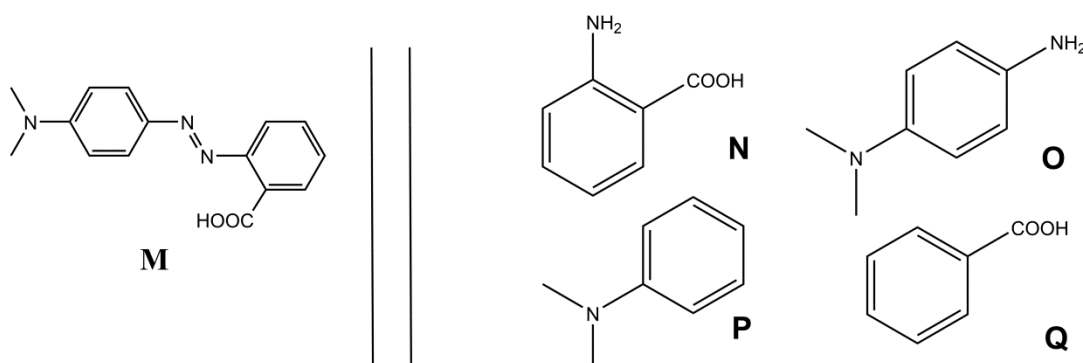

Fig. 1 – Possible reactants for the synthesis of **M**.
2. **M** can be synthesized in two steps from simple reactants (Fig. 1). **Choose** the reactants (**N** to **Q**) that can provide **M** with very high regioselectivity. Sodium nitrite (NaNO_2) in cold aqueous hydrochloric acid are used as reagents for the first step of the synthesis.